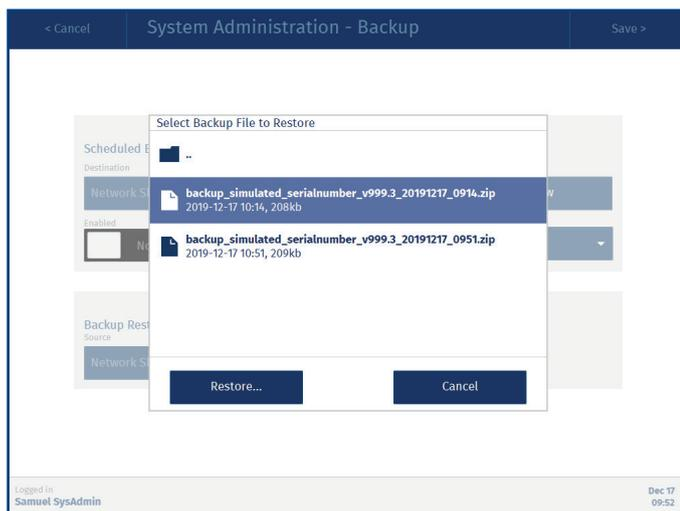

Figure 33. The Select Backup File to Restore dialog.
6. In the **Select Backup File to Restore** dialog (see Figure 33), browse to the file location (if necessary) and select the backup file to be used. The file name for backups is based on the system’s serial number and the date and time of the backup.